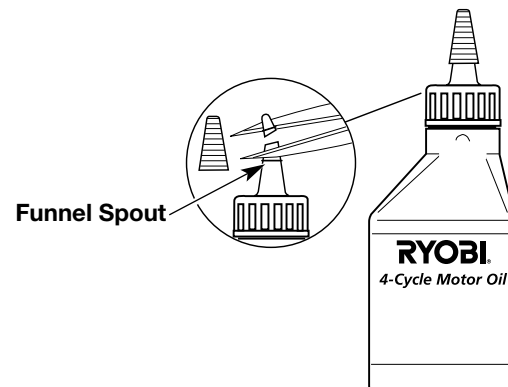

Fig. 17
Your unit is supplied with one 3.4 fluid oz. (100 ml.) bottle of SAE 30 SF, SG, SH oil (Fig. 17).
1. Unscrew the top of the bottle of oil and remove the paper seal covering the opening. Replace top. Cut the tip off the funnel spout (Fig. 17).